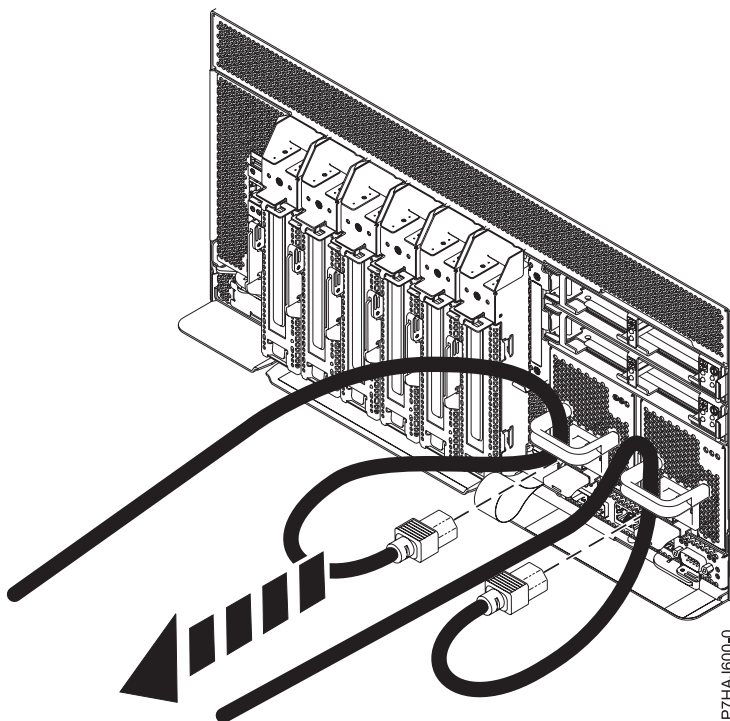

Figure 12. Removing the power cords
3. Disconnect the power cords from the system unit as shown in Figure 12.